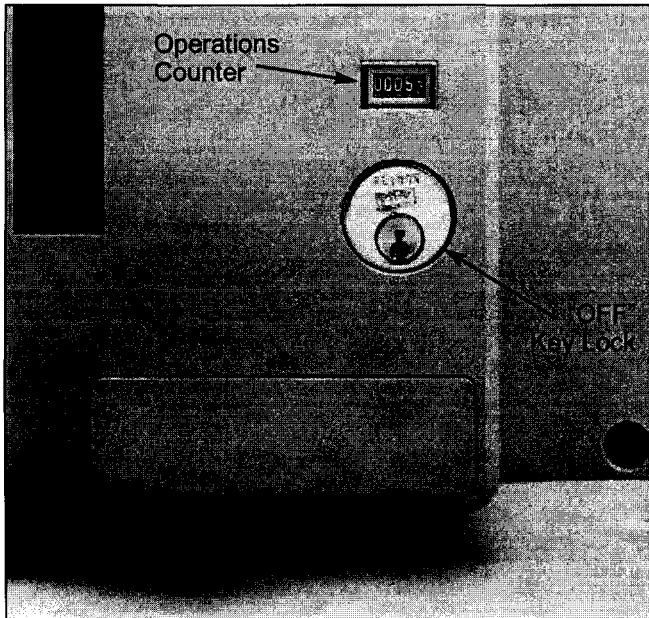

Figure 3-44 Cover Mounted Key Lock and Operations Counter
**Operations Counter** - The operations counter is a mechanical device used to provide a record of the number of circuit operations. It is mounted in the lower right portion of the circuit breaker and can be viewed through the front cover (Figure 3-44).
**Off Key Lock** - The off key lock secures the circuit breaker in the "OFF" position. It is mounted in the lower right portion of the circuit breaker and can be viewed through the front cover (Figure 3-44). The customer supplies the key lock. The provisions available are for Kirk, Castell or Ronis.